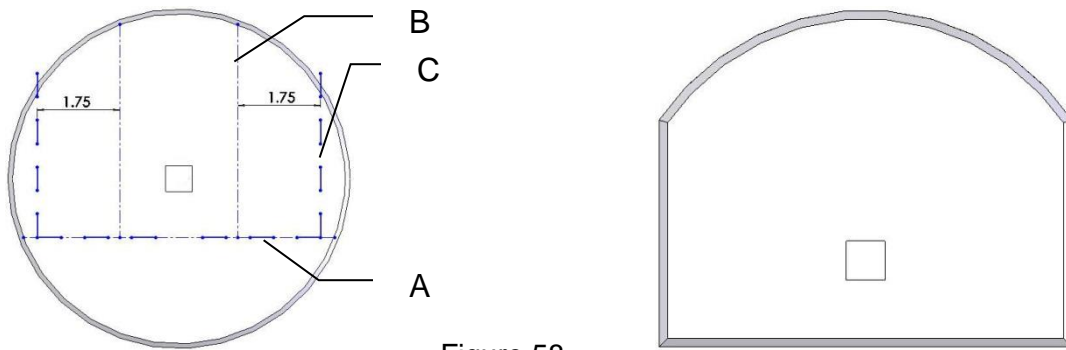

Figure 58
1. Both moisture discs (006-4641H) will need to be cut along the serrated line (A) shown on Figure 58. Measure from the laser etched line (B) 1-3/4" (45mm) on both side. Mark and cut the disc. Completed disc in shown to the top right.
4. Mark a line 1-1/2" (38mm) up and 3-1/2" (89mm) over from point D. Drill a 3/4" hole at the point (E). Repeat for the opposite side.